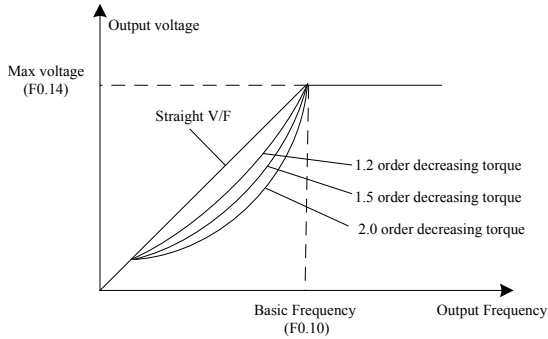

Fig.6-8 Torque-reducing curve
- 1~3: Multi-order decreasing torque. It is suitable for the centrifugal loads such as fan and pump, as shown Fig.6-8.